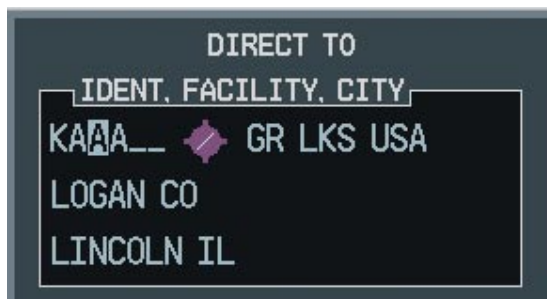

Figure 5-22 Entering an Identifier
- 2) Enter the destination waypoint identifier (Figure 5-22).